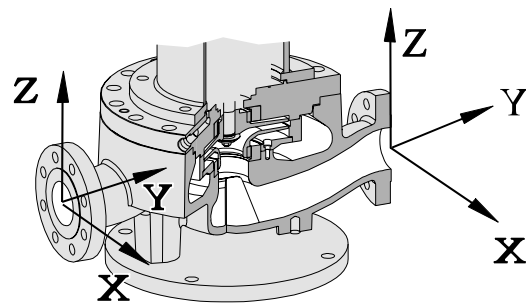

Figure 4: Forces and moments
- the position of the suction and discharge nozzles in the x and z directions (see Figure 4) and